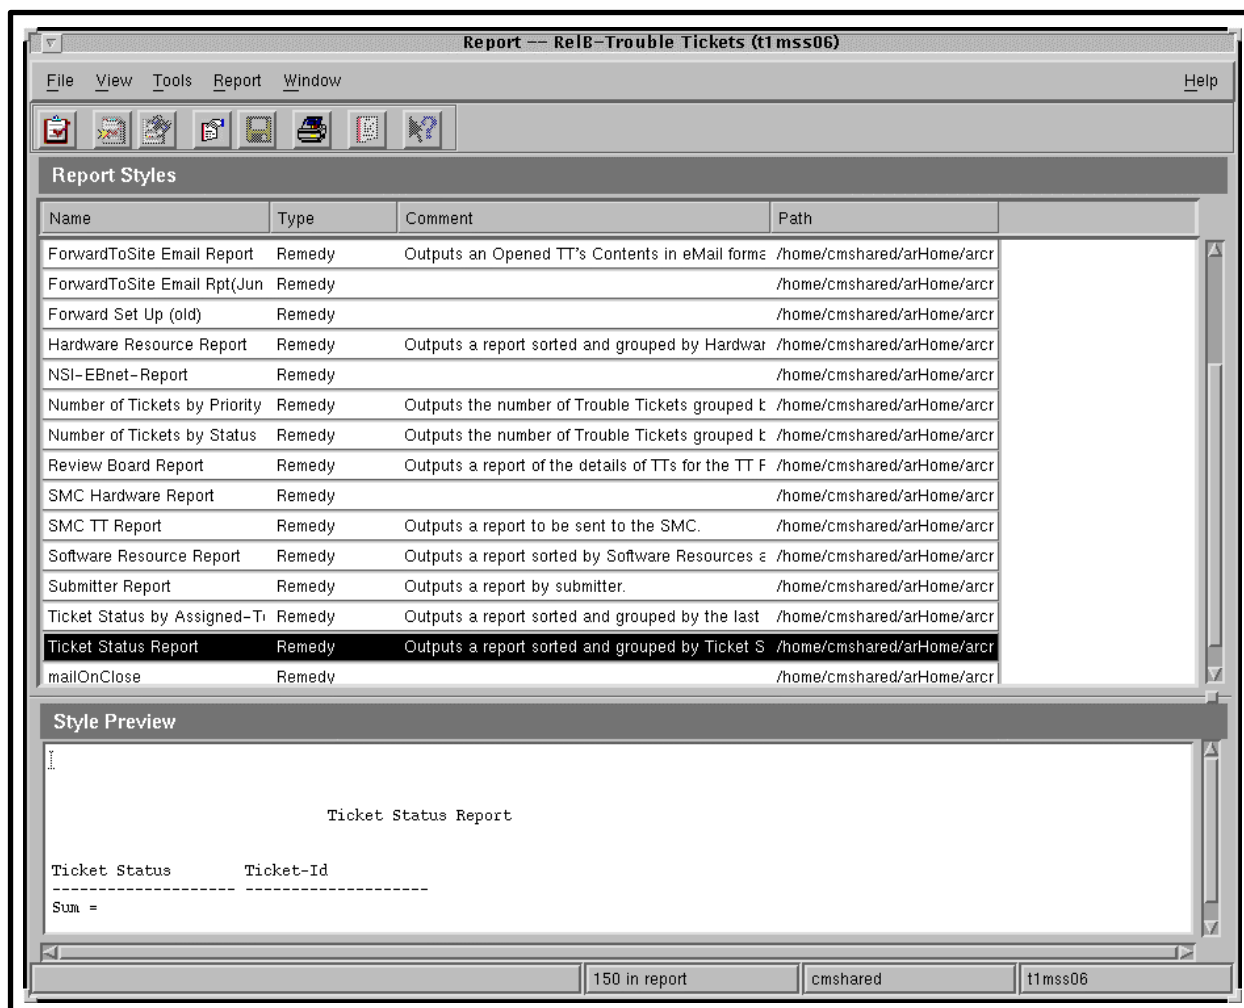

Figure 22. Remedy Report Window
Most of the time, you will probably select a report from the list, using the **Report** window illustrated in Figure 22. If you need a custom report, it would be possible to select data from the database and create a report using an appropriate separate software application (e.g., a spreadsheet program).
- 8 Select (highlight) the report you want from the **Report Styles** list (see Figure 22) by clicking on the report name (in this case, **Ticket Status Report**).
- The custom report **Ticket Status Report** is highlighted with the style preview visible in the **Style Preview** window (see Figure 22).